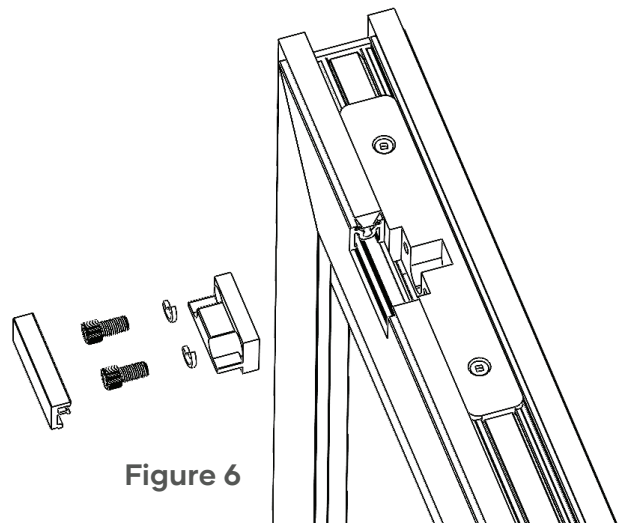

Figure 6
2. Remove the side load arm cover and clamping block from leaf. See figure 6.